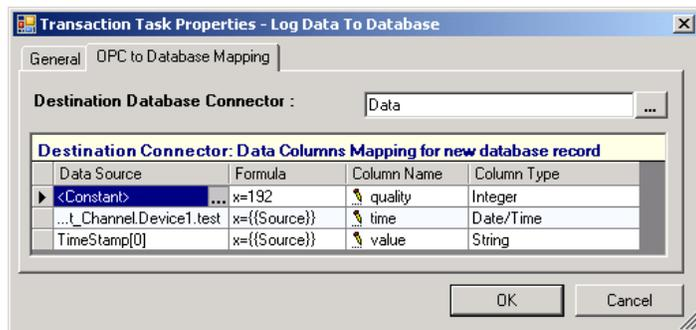

Figure 13 - Log Data to Database block Configuration
Step 5 is where we actually write the data to the database. The **OPC to Database** block is used for this. This block collects the OPC value of the RTU and writes this value to a new value in the database. Configure the OPC to database as shown in Figure 13.